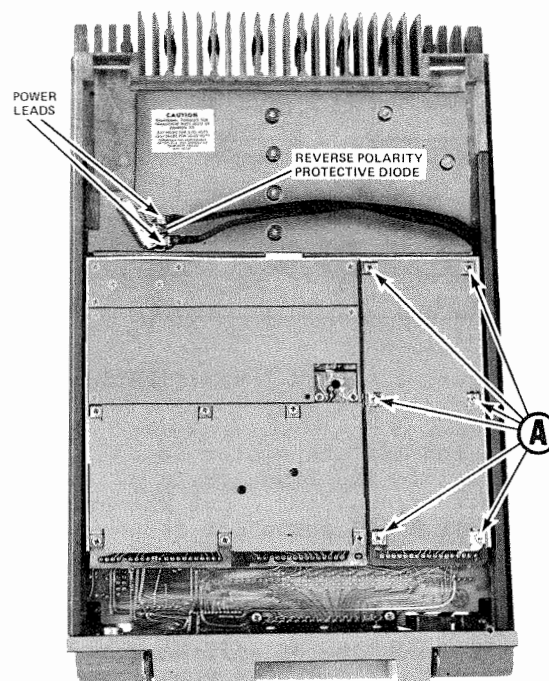

Figure 6 - Disassembly Procedure-Bottom View
1. Unplug the exciter/PA cable (B).
2. Remove the six screws (A) holding the exciter board and its bottom cover to the module mounting frame (see Figure 6).